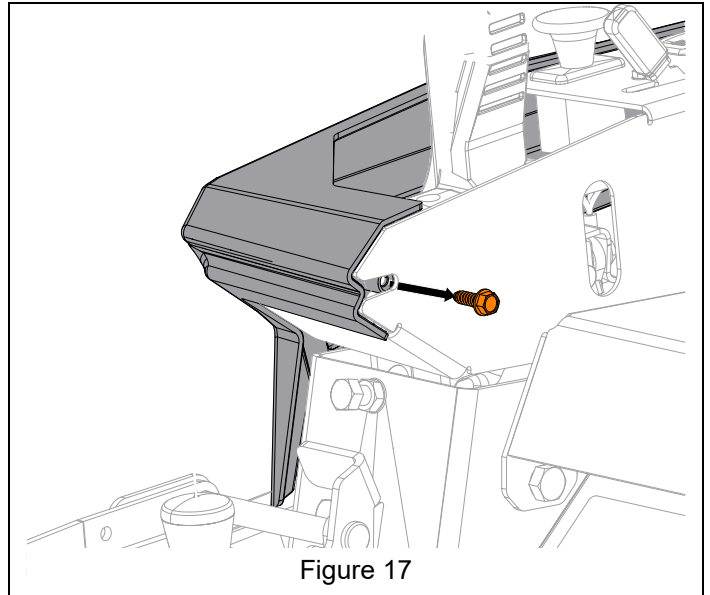

Figure 17
2. Remove 1 tapping screw from front of right fender. See Figure 17.